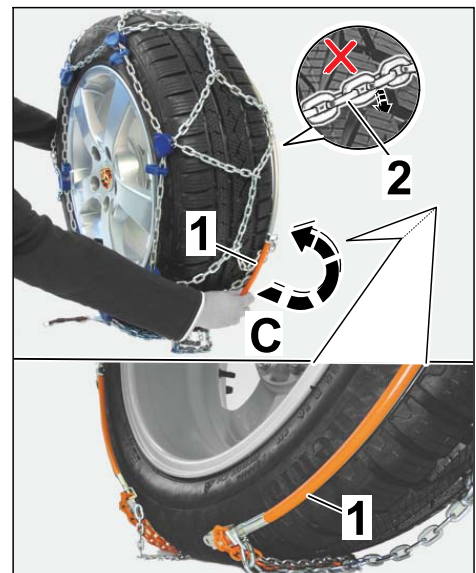

Figure 6
- 2.1.4 Guide the ends of the spring steel clip at the bottom of the wheel behind the wheel (⇒ *Figure 6 -C-*).
- 2.1.6 Arrange the chain net and make sure that no bars of the chain are caught in the tread (⇒ *Figure 6 -inset-*).